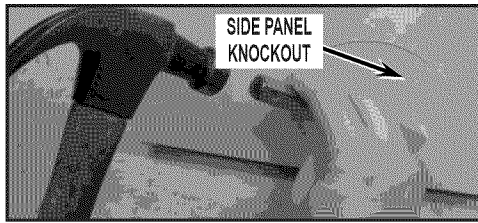

FIGURE 29
- To remove the most rearward left side knockout, use either a 1/8" drill bit or a cold chisel and hammer. Remove the six(6) knockout retaining tabs around the edge. See *Figure 29*.